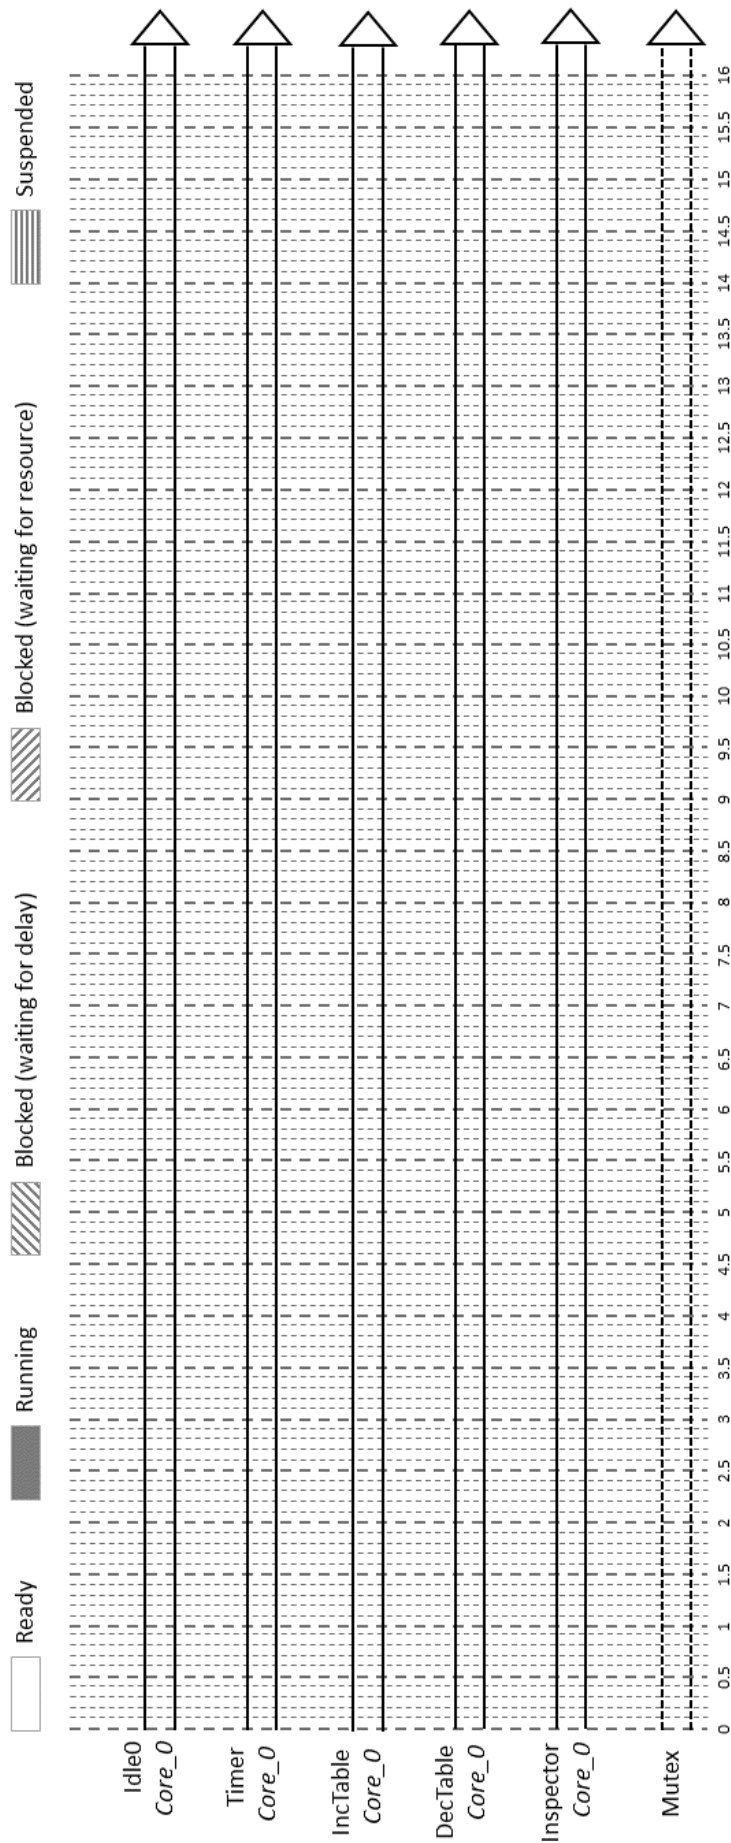

FIGURE 3.7 – Program with Task inspector on the Core_0 and Mutex.
9. Run the program, copy the console, trace in the figure 3.7 the behavior of the 3 tasks until 40 ticks and explain the behavior and the effect of the Mutex.